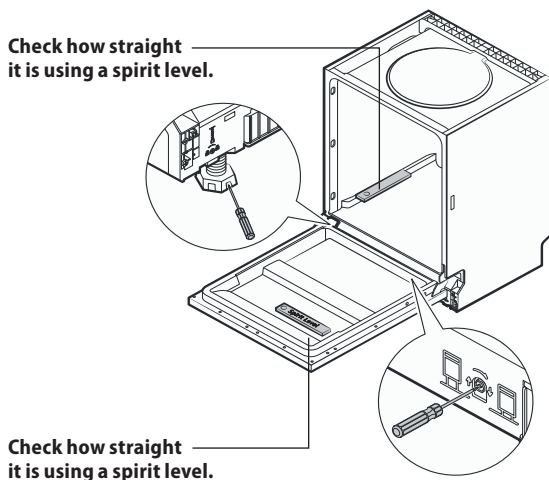

Fig. 17
8. Use the feet at the front and back of the appliance to level it to a horizontal position. Adjust the back feet by turning the screw on the bottom of the front side of the appliance (step 5). Adjust the front feet by turning screws located near the feet themselves (step 5B). Use a spirit level Fig. 17).
2. Place a spirit level on the fully opened door and in the interior of the appliance (Fig. 17). Make sure the dishwasher is in a horizontal position.